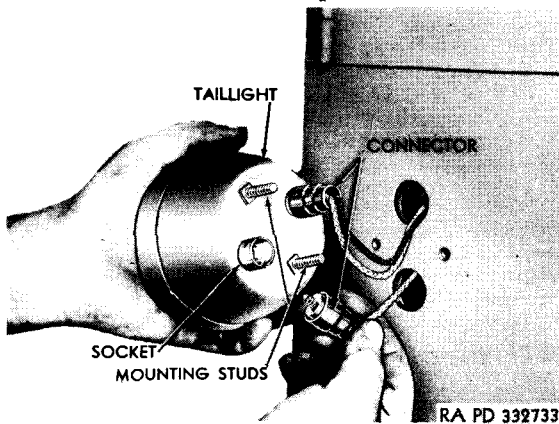

Figure 49—Light Plug Connections
d. **Installation** (figs. 47 and 48). Insert two mounting studs on rear of light through holes in body with wide lens at the bottom (figs. 45 and 46). Attach with 1/4-inch lock washers and 1/4-inch-20 hexagonal nuts. Attach wiring connectors as shown (fig. 49). Solder connection to end of wire. Slide connector over light socket, if it fits only one way, push in, and turn counterclockwise to lock in place. Install junction box cover with gaskets. Test light for proper operation.